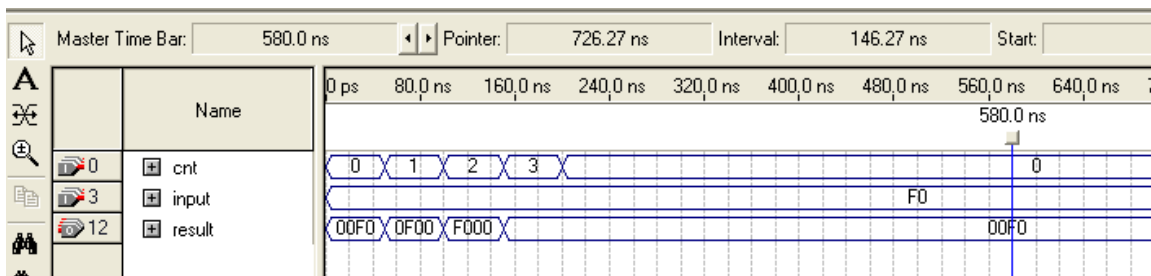

Figure 4-6.
7. Check to see if you get the same results shown in Figure 4-6.